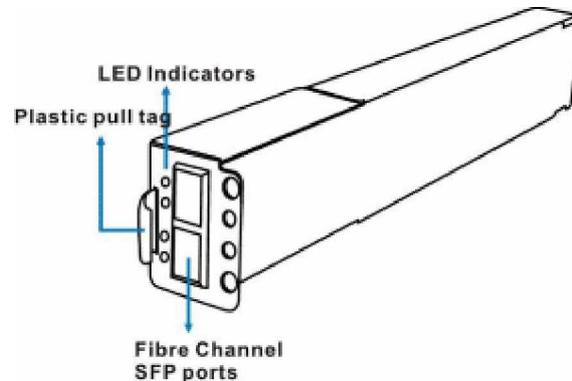

Figure 1-17: I/O Module
Two (2) LEDs per FC port indicate the connection status. A plastic tab next to the Fibre ports helps you remove the module. The module is hot-swappable and supports online maintenance. (See **Figure 1-17**)